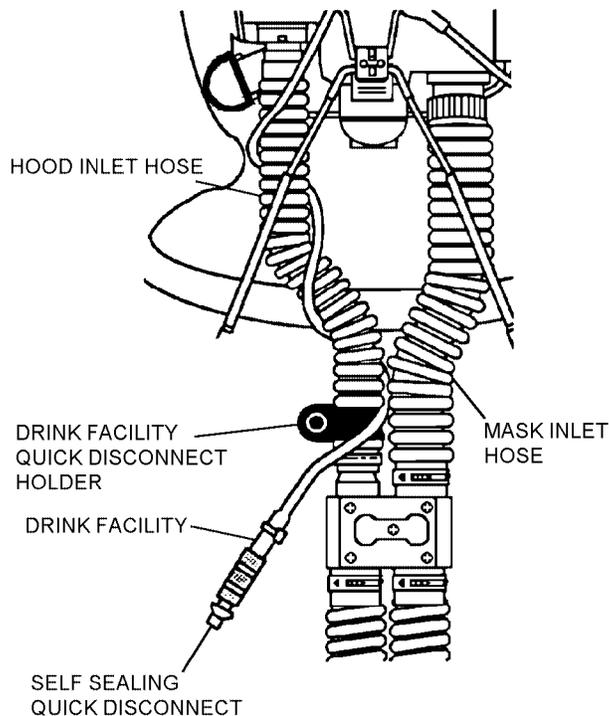

Figure 4-15. Drink Facility
**4-20. Drink Facility.** The drink facility (figure 4-15) consists of an internal drink tube (mouthpiece) located within the orinasal mask, a butyl external drink tube that is wrapped around the hood inlet hose, and a self-sealing quick disconnect at the canteen end. The quick disconnect is stored in the drink facility quick disconnect holder on the hood inlet hose when not in use. To drink, attach to the M-1 canteen cap on a two quart collapsible canteen, fitted with a shoulder strap. The facility is CBR resistant and may be used in a contaminated environment, if connected to the canteen in an uncontaminated environment. For additional information, see the applicable aircraft NATOPS manual.